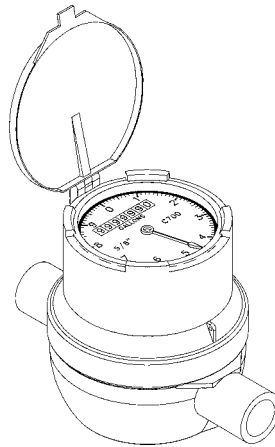

Figure 33. Flow Totalizer.
18. Make sure that water is flowing through the chemical injection/cleaning module. Observe the flow totalizer for operation. See Figure 33.